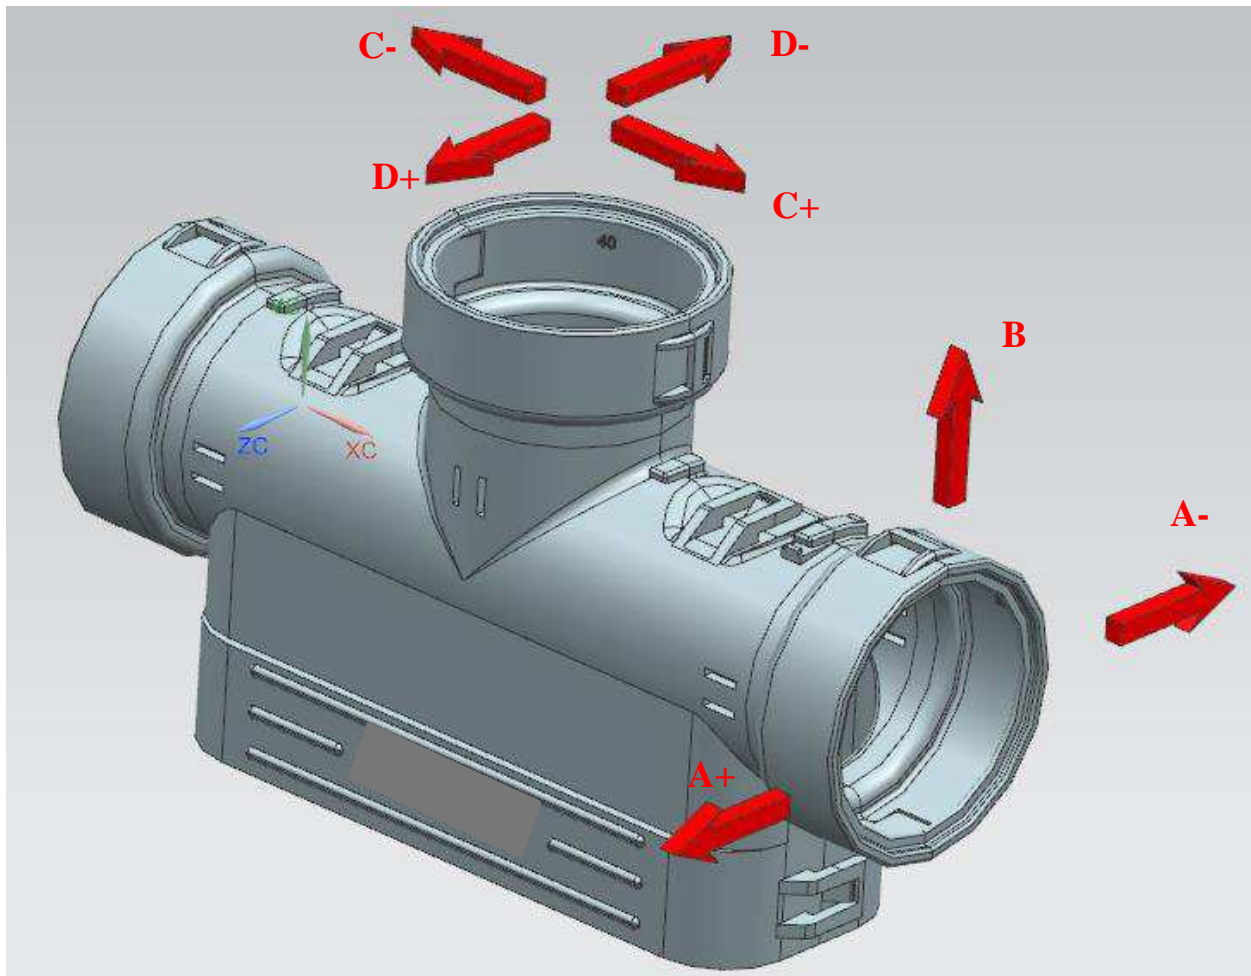
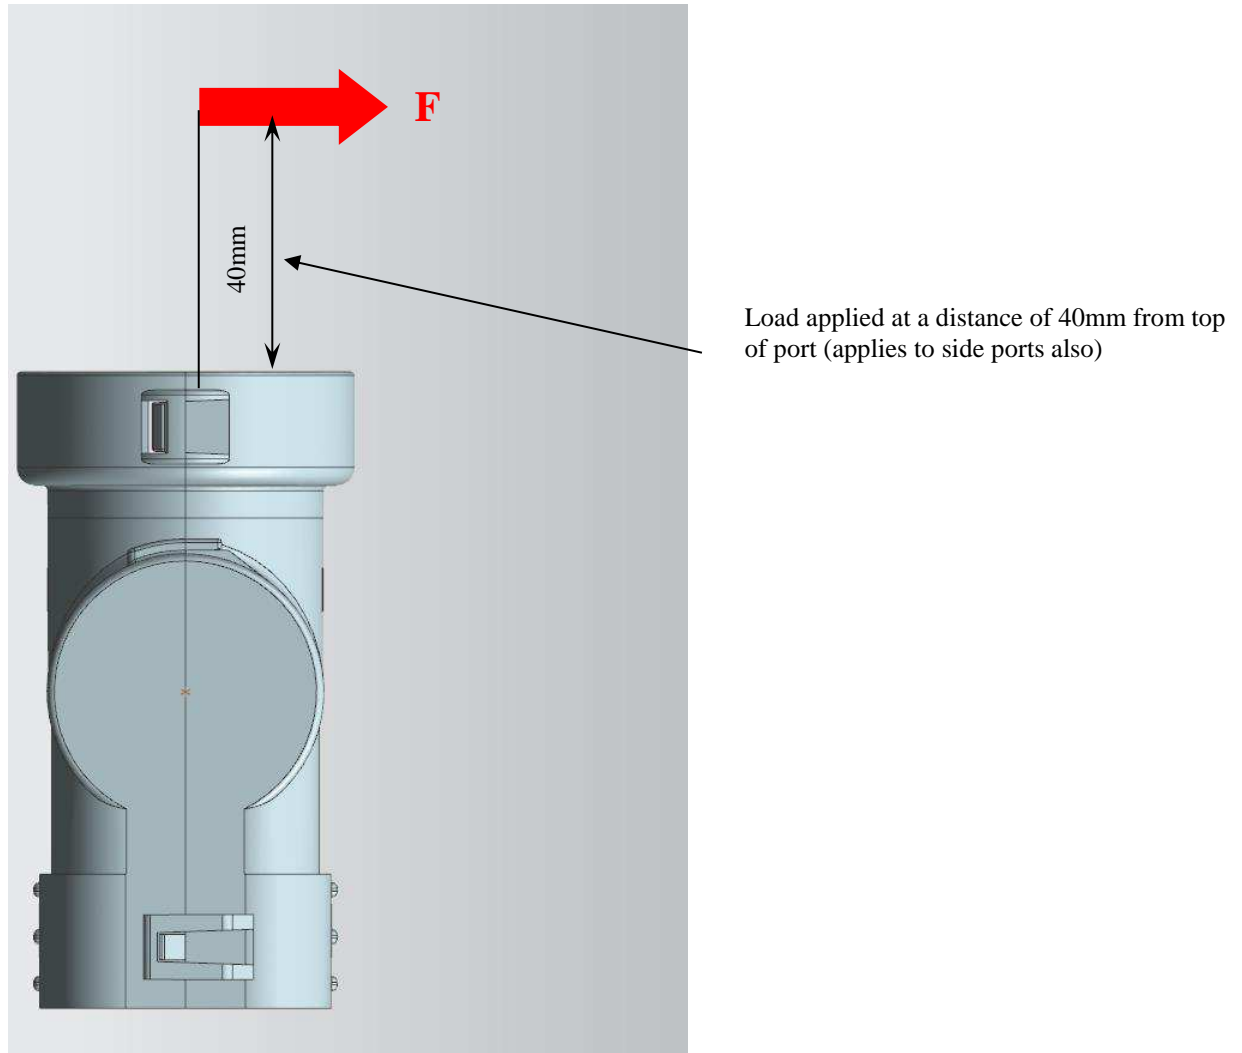

Figure 3: Loading directions for Normal Pull-Force Tests
Figure 4: Loading Directions for Normal Pull-Force Tests
8. Figure 3 implies directions of load application only. Position of load application will always be as defined in Figure 4 (see next page).